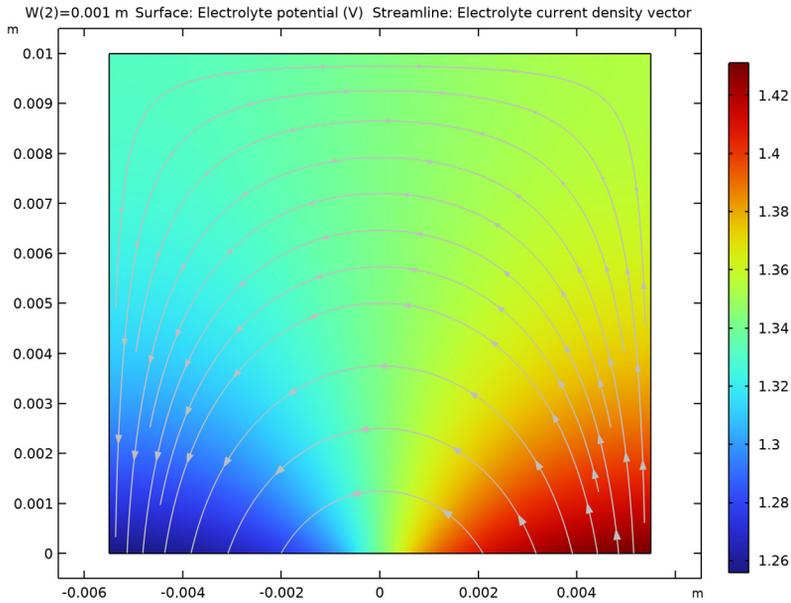

Figure 5: A surface plot of the electrolyte potential and surface arrow plot of electrolyte current density vector for 1 mm thick Al isolator.
Figure 5 shows a surface plot of the electrolyte potential and a surface arrow plot of the electrolyte current density vector for a magnesium (Mg) - mild steel (MS) galvanic couple with 1 mm thick Al isolator sandwiched between them. The surface arrow plot indicates the electrolyte current density, which in this case coincides with the ionic path taken by the Mg^{2+} ions that get dissolved in the electrolyte solution from the Mg surface.